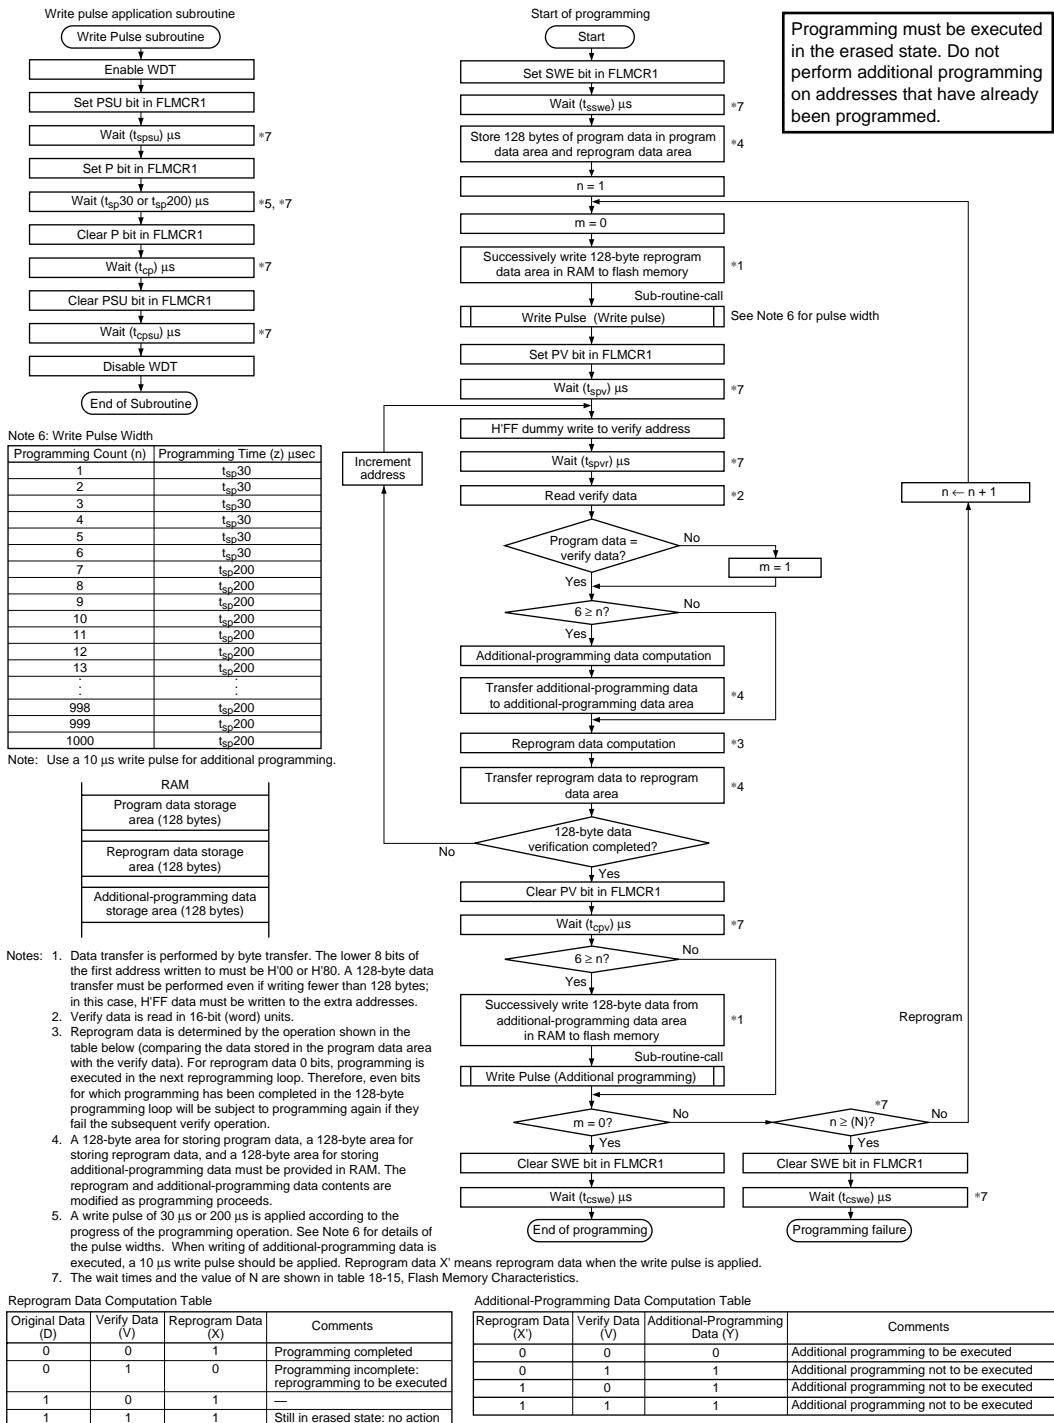

Figure 15-11 H8/3022F Program/Program-Verify Flowchart
When writing data or programs to flash memory, the program/program-verify flowchart shown in figure 15-11 should be followed. Performing program operations according to this flowchart will enable data or programs to be written to flash memory without subjecting the device to voltage stress or sacrificing program data reliability. Programming should be carried out 128 bytes at a time.
After the elapse of a given programming time, the programming mode is exited (the P bit in FLMCR1 is cleared, then the PSU bit is cleared at least (t_{cp}) μs later). The watchdog timer is cleared, and the operating mode is switched to program-verify mode by setting the PV bit in FLMCR1. Before reading in program-verify mode, a dummy write of H'FF data should be made to the addresses to be read. The dummy write should be executed after the elapse of (t_{spv}) μs or more. When the flash memory is read in this state (verify data is read in 16-bit units), the data at the latched address is read. Wait at least (t_{spvr}) μs after the dummy write before performing this read operation. Next, the written data is compared with the verify data, and reprogram data is computed (see figure 15-11) and transferred to the reprogram data area. After 128 bytes of data have been verified, exit program-verify mode, wait for at least (t_{cpv}) μs , then clear the SWE bit in FLMCR1. If reprogramming is necessary, set program mode again, and repeat the program/program-verify sequence as before. However, ensure that the program/program-verify sequence is not repeated more than (N) times on the same bits.
6. The program/program-verify flowchart for the H8/3022F is shown in figure 15-11.